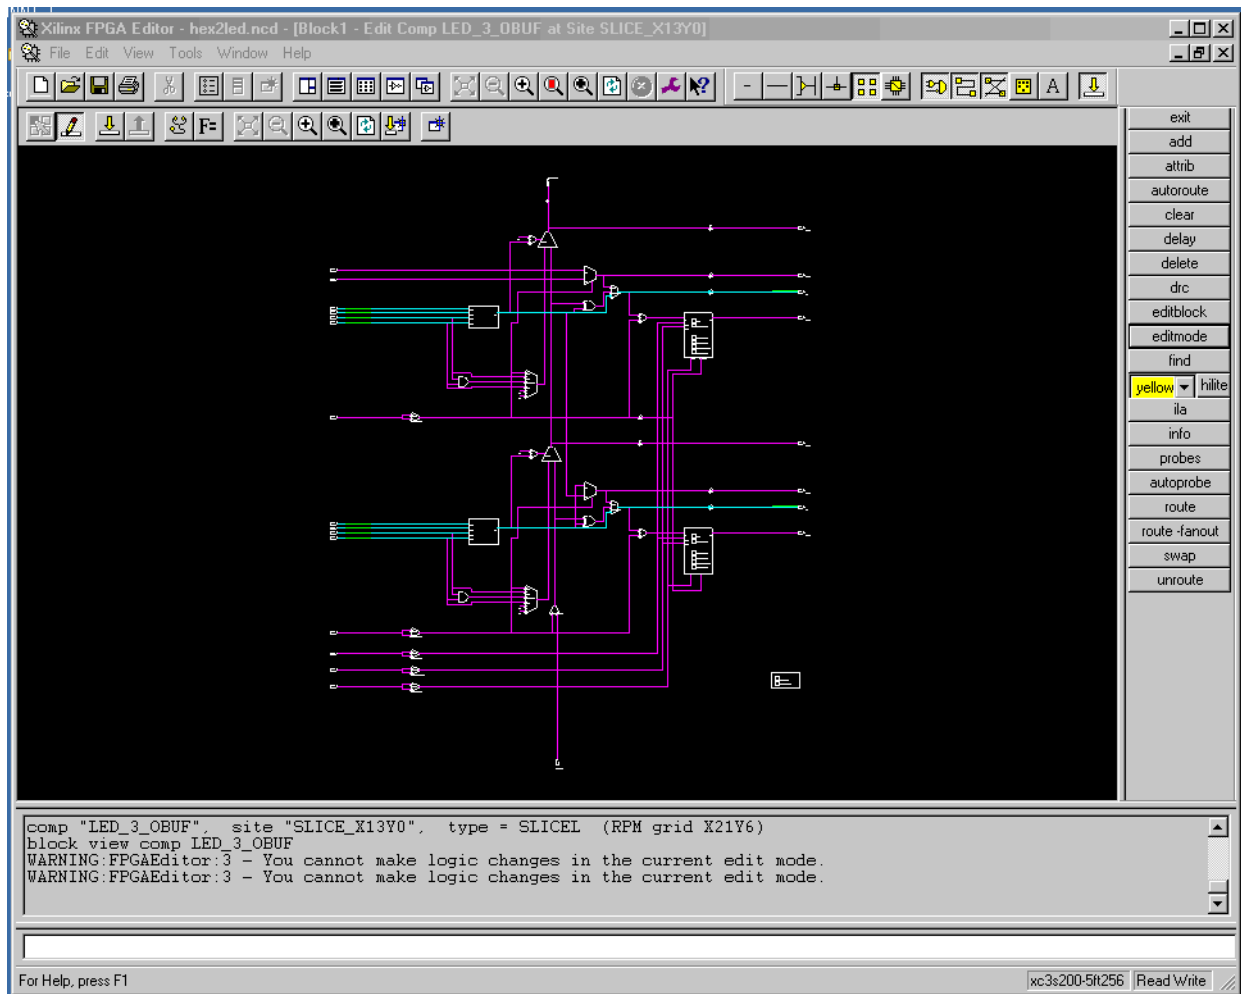

Figure 2: Block Window Slice View
- Double-click on the site to display the Block window, as shown in Figure 2, page 4.